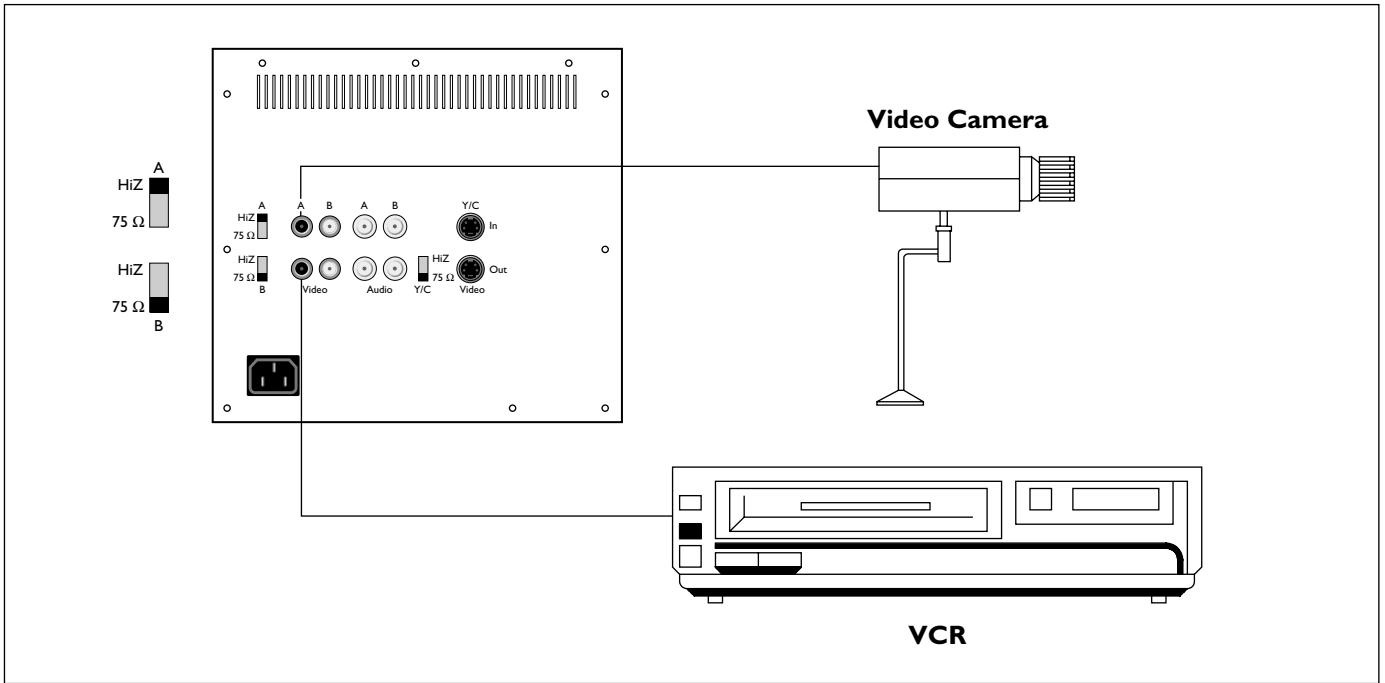

Fig 3a Outputting Video Signal to External Device
**NOTE:** All video inputs are **passive loop-through**. In a single connection mode, the impedance must be set to 75 Ohm by sliding the impedance switch to the 75 Ω position. In the multiple connector mode (Fig 3a & 3b), the impedance switch is set to the HiZ position. This allows the video signal to be passed on to another monitor or device.